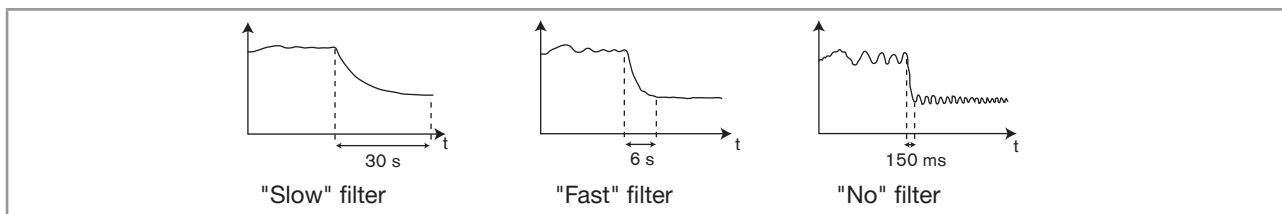

Fig. 53: Filtering curves
**FILTER:** If required, choose the level of attenuation of the input variables. See Fig. 53: Filtering curves.